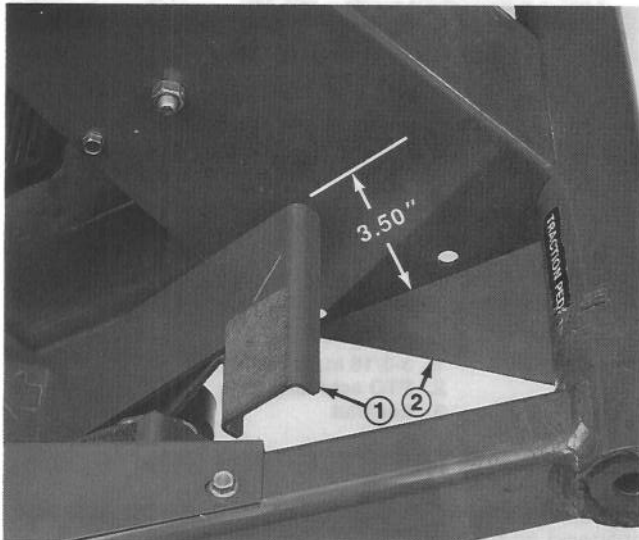
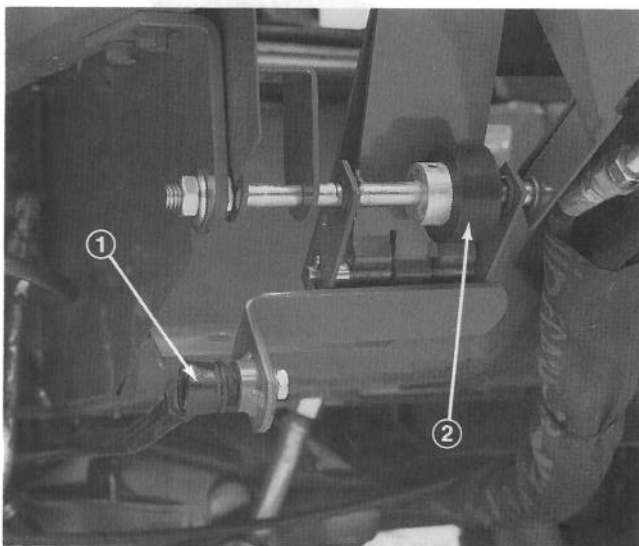

Figure 52
Figure 53
2. Press down on front of traction pedal and check travel. There should be approximately 3.50" clearance between end of pedal and floor plate when pedal is fully depressed (Fig. 52). Adjust pump control rod (Fig. 53) to attain dimension.
1. Loosen two nuts securing traction pedal shaft on right side of pedal (Fig. 53).